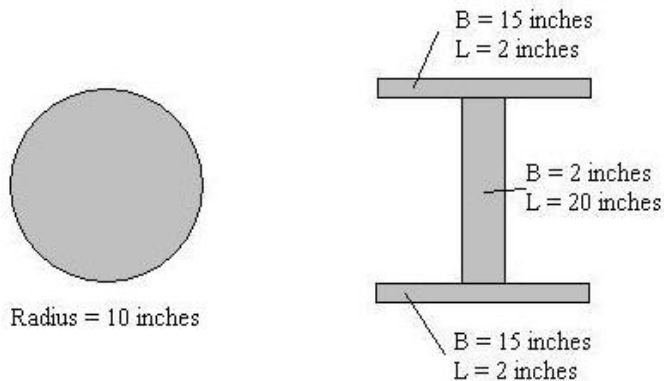

Figure 2: Cross-sectional areas.
2. Calculate the maximum tensile and compressive forces allowed for the following two cross-sectional areas shown in Figure 2. The maximum tensile strength is 3,750 lb/in2. The maximum compressive strength is 4,850 lb/in2. Use the following equations along with those in #2 to complete the problem. Show your work and calculations.